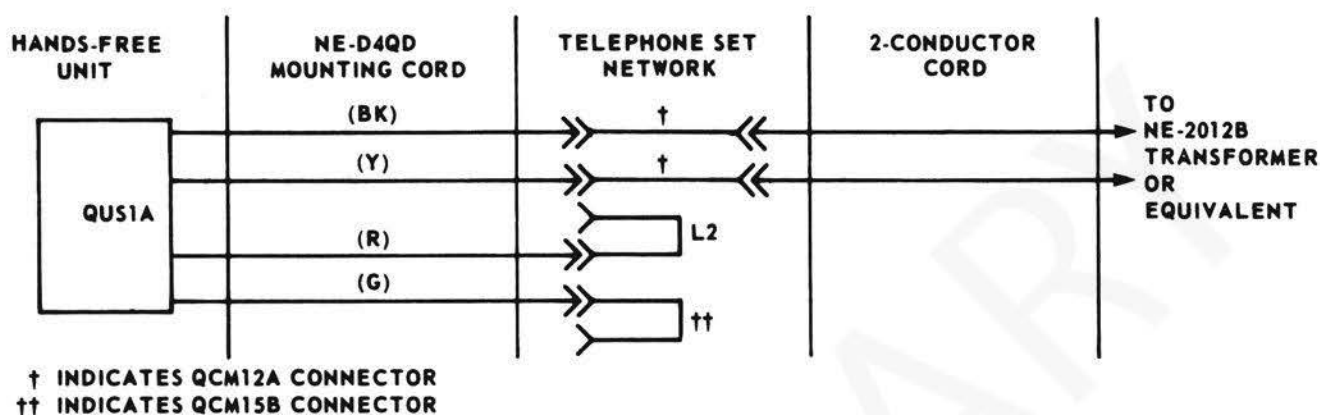

Fig. 2—Hands-Free connections
5.01 Connections of the QUS1A COMPANION handsfree unit to the telephone set are made inside the set. A 2-conductor spade-tip-ended mounting cord and two QCM12A connectors are required. Connect as follows: (Fig. 2).
- Connect the black (BK) and yellow (YL) leads of the handsfree unit mounting cord to the QCM12A connectors.
- Connect the red (R) lead of the handsfree unit mounting cord to terminal 2L of the network. Connect the green lead to the QCM15B connector which is connected to 1L.